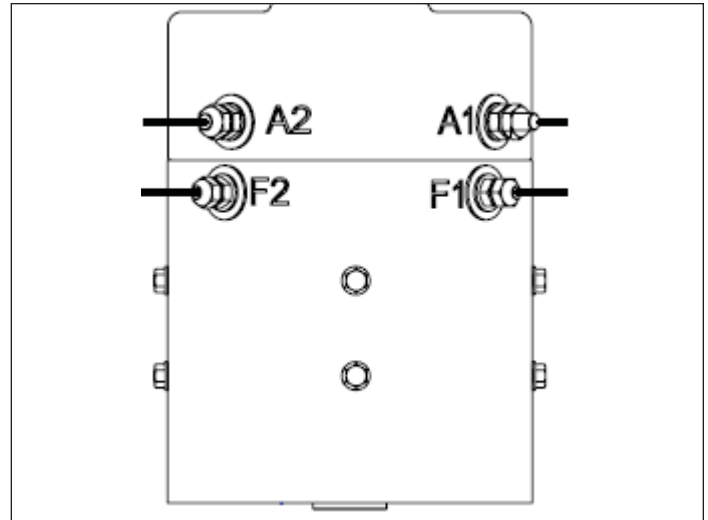

Figure 9-1. Traction Motor Cables Labels
1. Mark traction motor cables (if not already marked), with motor terminal identification. Figure 9-1.